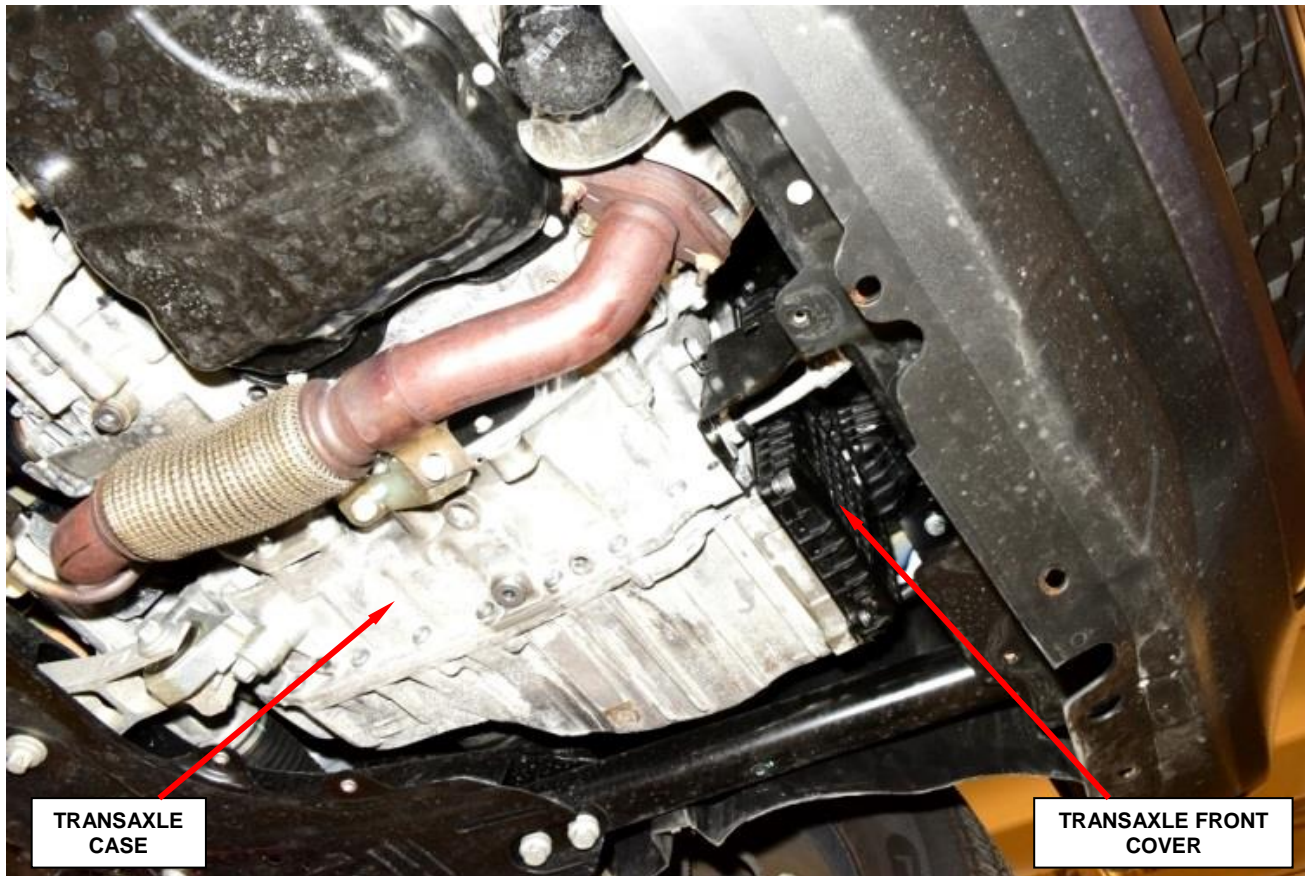

Figure 6 – Transaxle Front Cover
17. Remove and save the transaxle front cover (Figure 6).